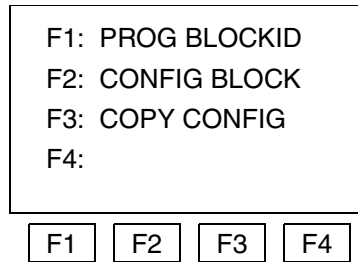

Figure 109. Configuration Menu
- Press F3 (CONFIGURATION) to access the Configuration menu Figure 109.